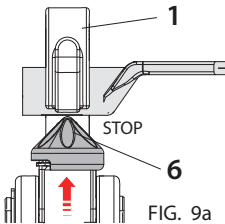

FIG. 9a
- ▶ Hold the connector against the upper die (1).
- ▶ Press the operating button (3) twice in quick succession (Fig. 5) to start the motor. The ram progressively advances until the indenter (6) comes into contact with the connector after which the motor automatically stops (STOP) (Ref. to Fig. 9a).